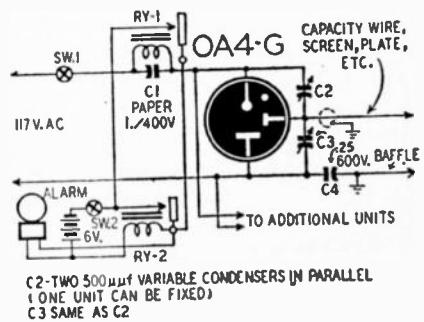

Fig. 703
A. Fig. 703 is a diagram of a capacity-operated alarm drawn to your specifications. A capacity wire or screen is placed in the area to be protected. A grounded metal shield or baffle may be mounted about 6 inches from one side to reduce sensitivity from one direction. These tubes have a photoelectric characteristic and should be shielded from light. After relay Ry-1 has been tripped the alarm will ring until SW2 is opened to reset Ry-2. Ry-1 is a 5,000-ohm plate relay and Ry-2 a 6-volt d.c. relay.